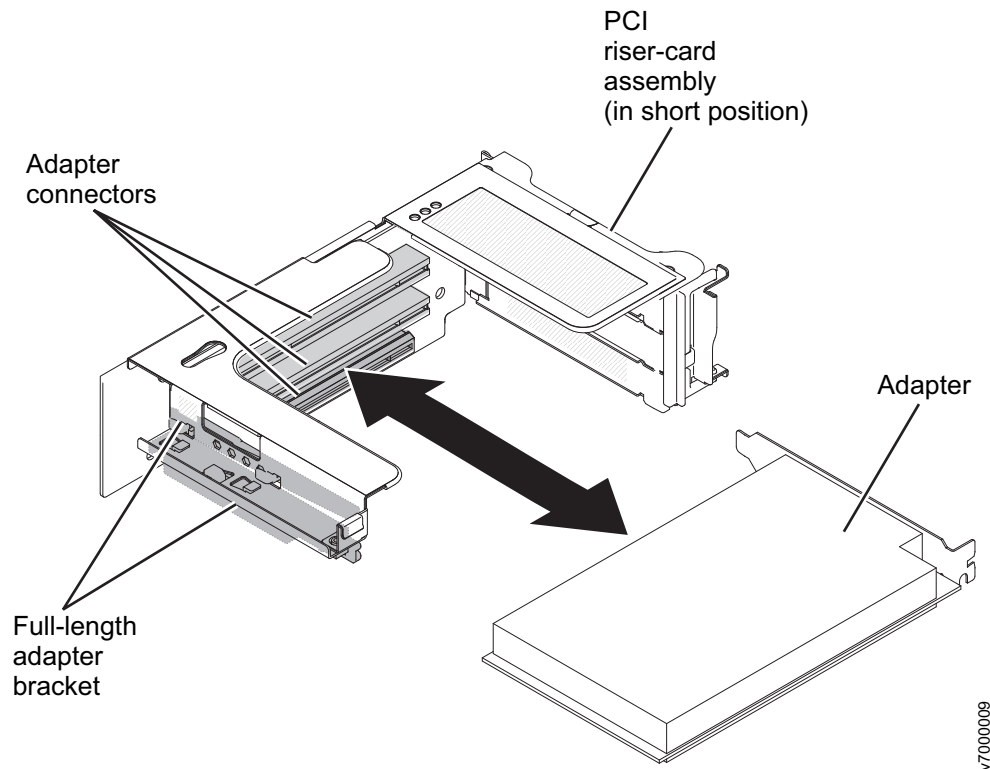

Figure 156. Removing the adapter from the adapter connectors
2. Carefully grasp the adapter by its top edge or upper corners, and pull the adapter from the PCI expansion slot, as shown in Figure 156 on page 185.